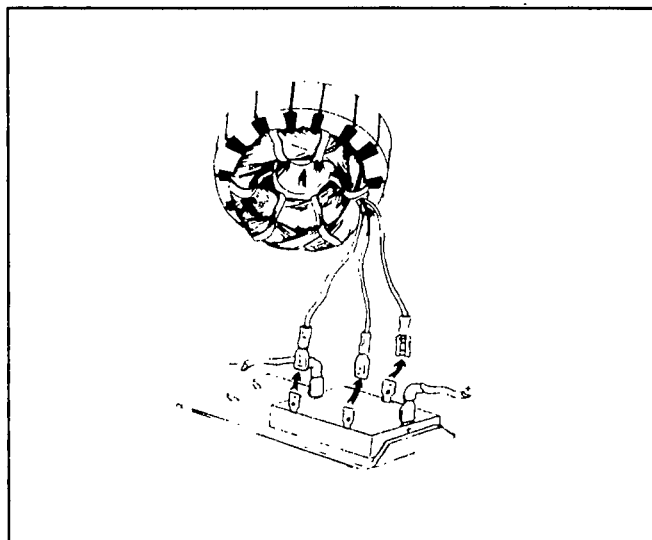

Figure 5. Exciter and Diode Bridge
The exciter is keyed to a rotor end cap and rotates with the main rotor during operation. It consists of three (3) wye connected coils, with three (3) leads coming out. The three leads connect to "AC" terminals on the diode bridge. See Figure 5.